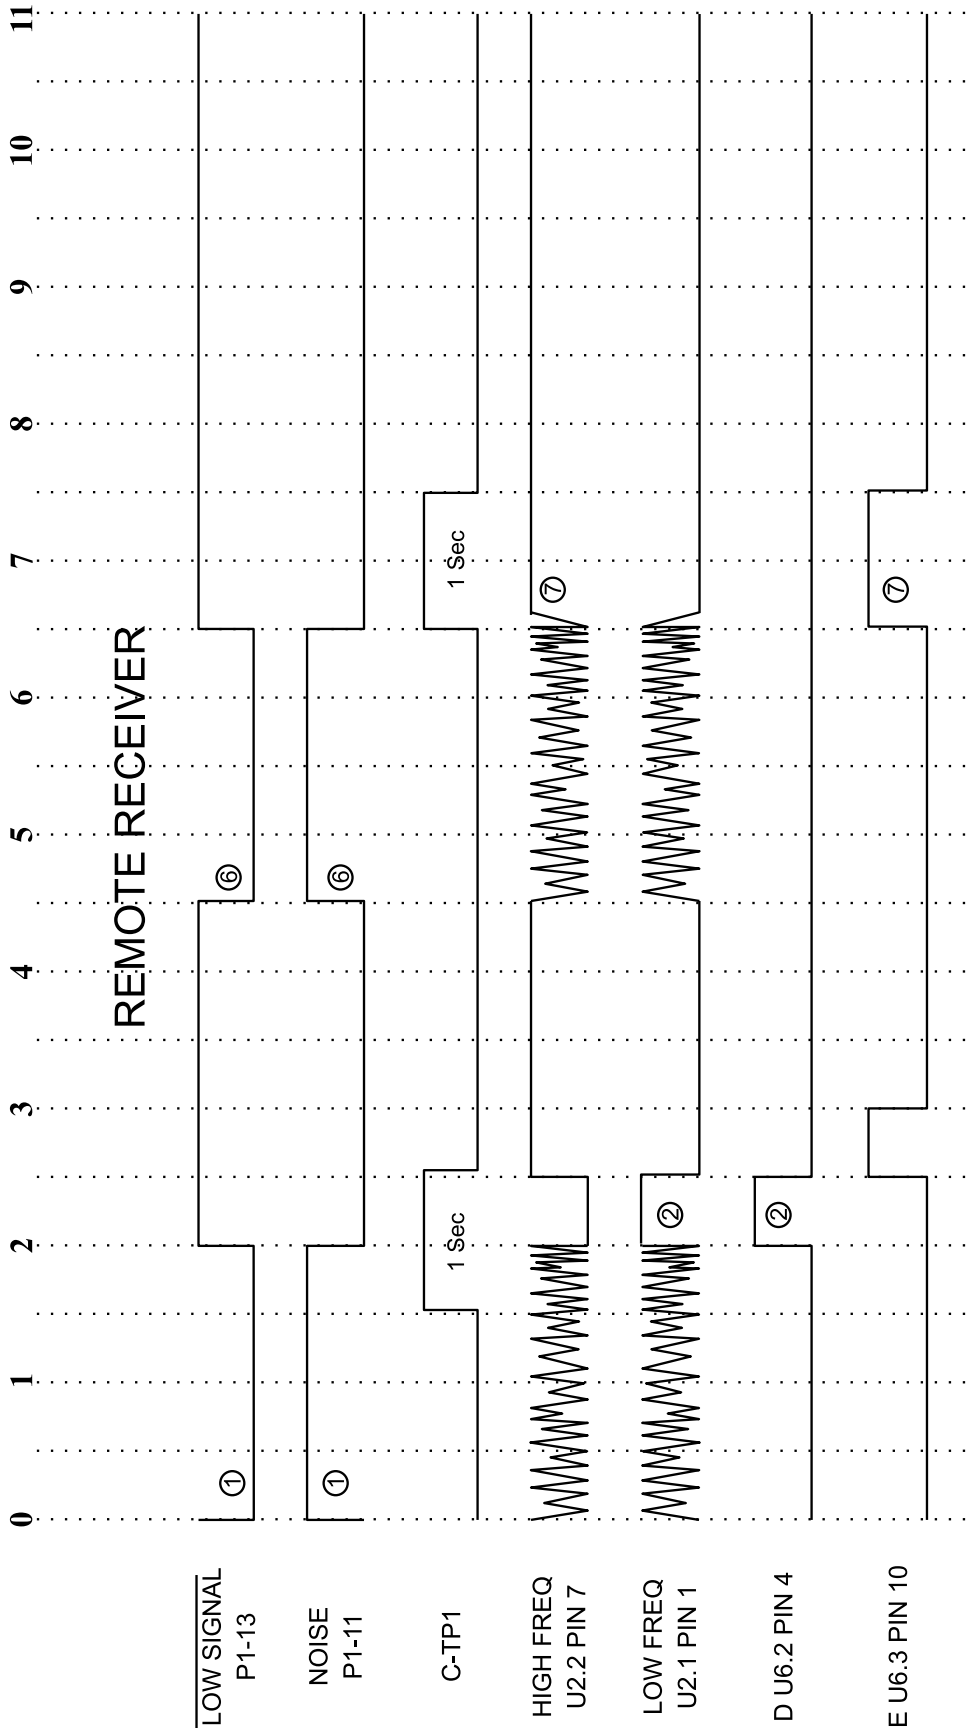

Figure 19-9. TCF-10B Trip Test Unit Timing Diagram (Sheet 2 of 5).
2. Unkeyed GUARD for two (2) seconds.
The remote substation receiver (RS) actions are shown on the timing diagram in Figure 19-9. LOW SIGNAL (P1-13) and NOISE (P1-14) are ANDed together and integrated (1.5 sec/0) in U6.1 and U4.2 to produce an output on TP9. TP9 output generates a one-second (1.0-second) sampling pulse at point C. U6.3 and U6.2 are AND gates. The HIGH input (A) is ANDed with C, and the LO input (B) is ANDed with C. The receiver at RS recognized that it had lost carrier for one-and-a-half (1.5) seconds and is looking for a half-second (0.5-second) or two-second (2.0-second) transmission of LOW (TRIP) or GUARD HIGH.